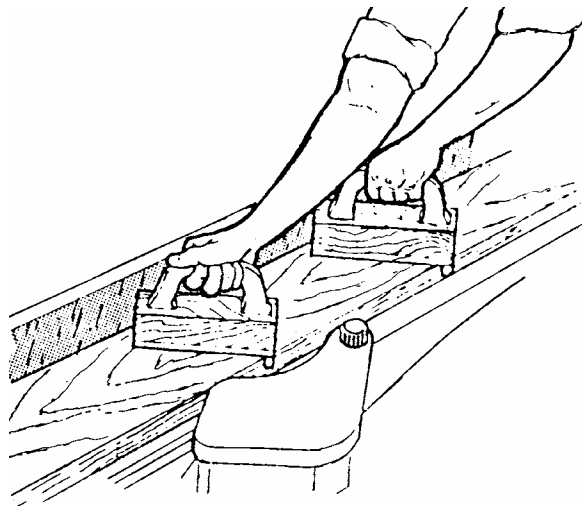

Figure 37
2. Place second push block near the rear of infeed table and continue feeding stock using the hand over hand method (Figure 37).